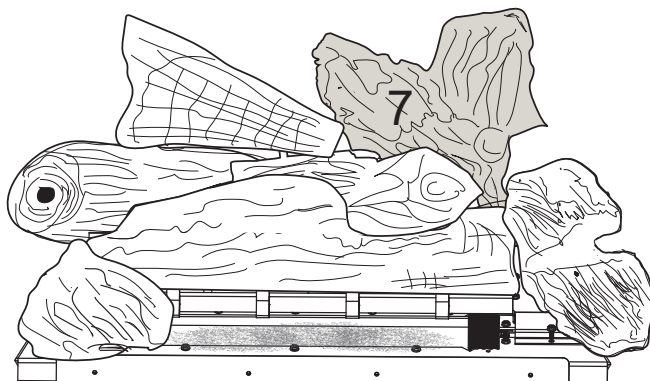

Figure 17 - Log #7 Placement
8. Hold log #7 with the flat end toward the back. Place log #7 by resting it behind log #2 and in front of the rear bend on the back, rotate clockwise to contact the back surface of log #7 to the metal bent upward on the burner assembly. The branch on log #7 should rest on log #5. See Figure 17.